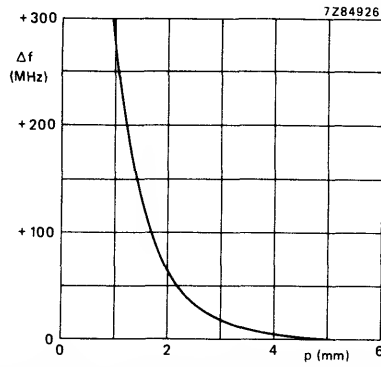

Fig. 4 Tuning of the oscillator as a function of the air gap between tuning screw and resonator:  $f = f_0 + \Delta f$ .
5. Accurate setting of the desired frequency is obtained by adjusting and locking the main tuning screw as well as possible. The power optimization screw is now slightly detuned from its position obtained in 4 to afford the residual fine tuning of frequency. Generally the associated output power degradation is then very small. see Fig. 4. If necessary, the procedures 4 and 5 can be repeated.
Fig. 4 Fine tuning  $\Delta f$  and associated power variation as a function of the coaxial tuning screw position at constant cavity tuning.  $V_d = 12$  V;  $P_0 = 88$  mW;  $f = (11\,000 + \Delta f)$  MHz.
4. A small screw on the top of the oscillator allows a limited range of tuning. Turning the screw clockwise, starting from the flush position of the internal pin ( $\Delta f = 0$ ), increases the frequency. When tuning up to 0,5% (i.e. approx.  $\Delta f = +50\text{ MHz}$ ), the stability of the oscillator remains unaffected; above that value the  $df/dT$  of the oscillator gradually increases due to Q-degradation of the dielectric resonator. A typical tuning curve is given in Fig. 4.